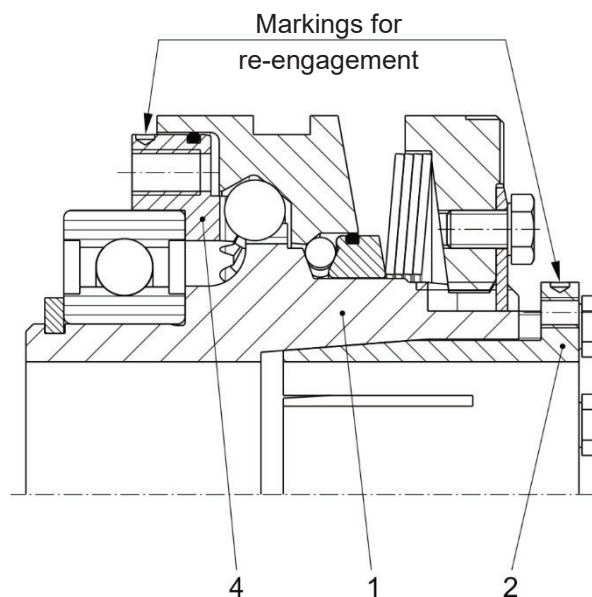

Fig. 6
- ❑ On overload-synchronous designs (Type 4190\_ \_ 3\_ \_ or 4196\_ \_ 3\_ \_) with cone bushing (2) the cone bushing is mounted in delivery condition in such a way that its marking bore and the marking bore in the pressure flange (4) align (see Fig. 6). This represents the synchronous re-engagement position of the clutch.
Re-engagement can only take place at the synchronous position for the overload-synchronous designs (Type 419\_.\_.\_3\_.\_). The marking bores on the outer diameters of the pressure flange (4) and the cone bushing (2) must align (Fig. 6). On key designs, a radial notch at the hub end (Item 1 / adjustment nut-side) is used as a marking. This represents the synchronous re-engagement position of the clutch. In addition, a yellow guideline sign for the re-engagement position is attached to the clutch.